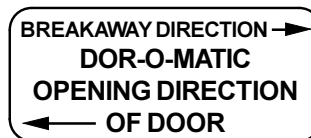

Figure 7-1
- 7.1. Orient the breakaway stop according to the directions on the switch label (Figure 7-1). The “OPENING DIRECTION OF DOOR” arrow should point in the direction that the door opens during normal operation.